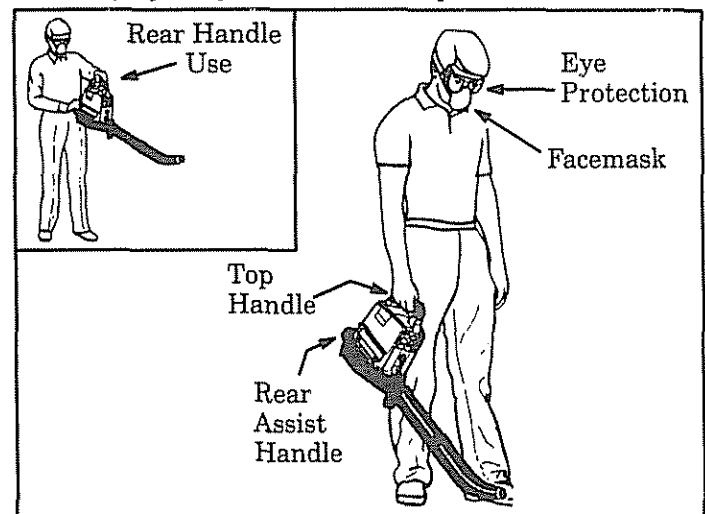

Figure 2
5. Turn the Blower Tube clockwise until the parts snap into place. When assembled, the nozzle should be aligned as shown in Figure 2.
11. **Use the correct operating position.** Figure 2. Do not overreach or use from unstable surfaces such as ladders, trees, steep slopes, roof tops, etc. Use extra care when cleaning on stairways. Keep firm footing and balance at all times.